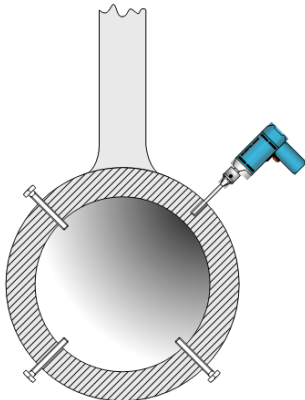

Figure 6
3. Provide means of aligning the sterntube or bearing in the bore. The preferred method for doing this is by installing jacking bolts (alignment screws). The alignment screws can often be arranged to act on the flange, thus avoiding drilling the stern frame casting. See Figure 6.